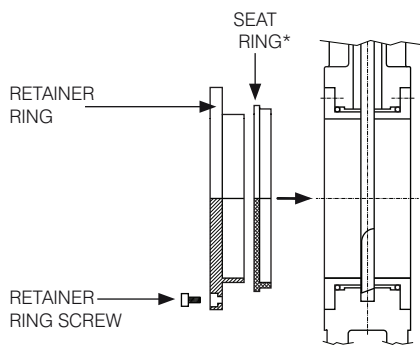

FIGURE 10
- b. Remove the retainer ring bolts and slide the assemblies out from both sides of the valve as shown in figure 10.